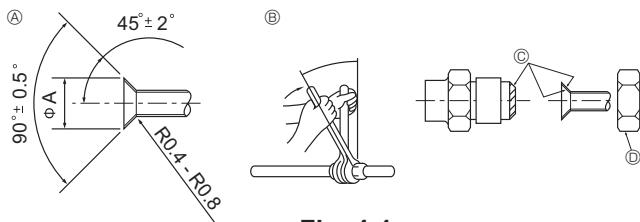

Fig. 4-1
4.2. Connecting pipes (Fig. 4-1)
⑧ Flare nut tightening torque